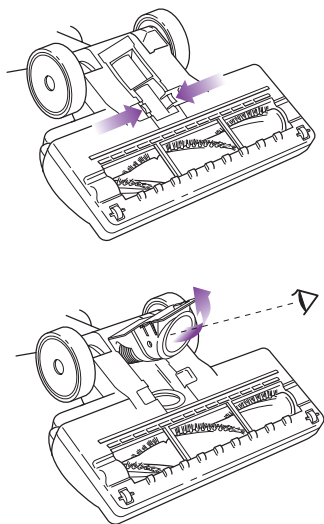

Fig. 33
- Turn motorized floor brush over and detach the hose by squeezing the tabs together and pulling it out. Straighten out the hose and inspect the inside for any blockages. (Fig. 33)